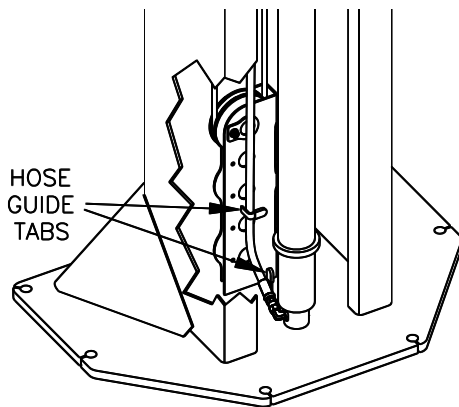

Fig. 17 - Hose Connection
- 43) Each column hose should connect to its cylinder with a 90-degree elbow rotated up from horizontal and be routed thru the Hose Guide Tabs as shown in **Fig. 17**.